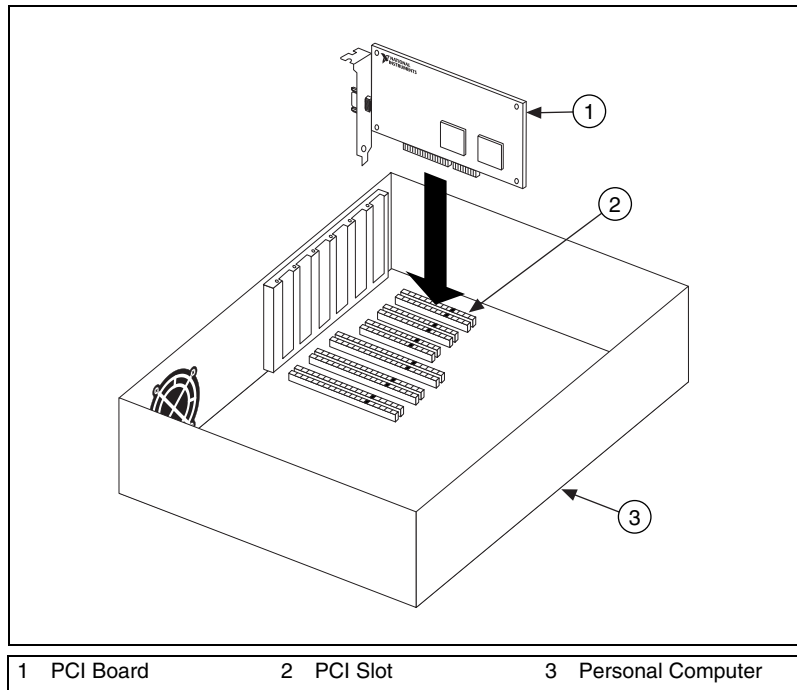

Figure 2-1. Installing the PCI-GPIB
7. Insert the PCI-GPIB into the slot with the GPIB connector sticking out of the opening on the back panel, as shown in Figure 2-1. It might be a tight fit, but do not force the board into place.